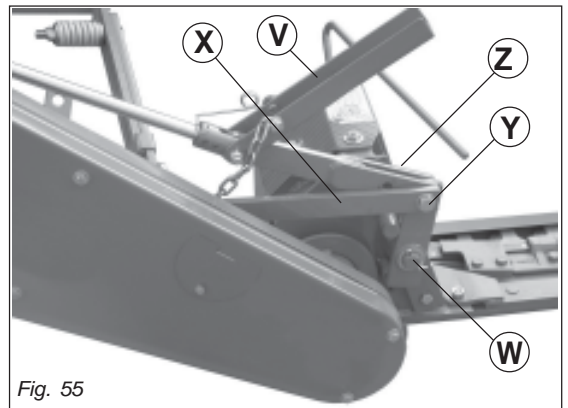

Fig. 55
For mowing on sloping ground, disable the lifting (V) device as shown in Figure 55 and couple the lever (W) with tie rod (Z) and the rod (X) in position (Y) as shown in Figure 55.